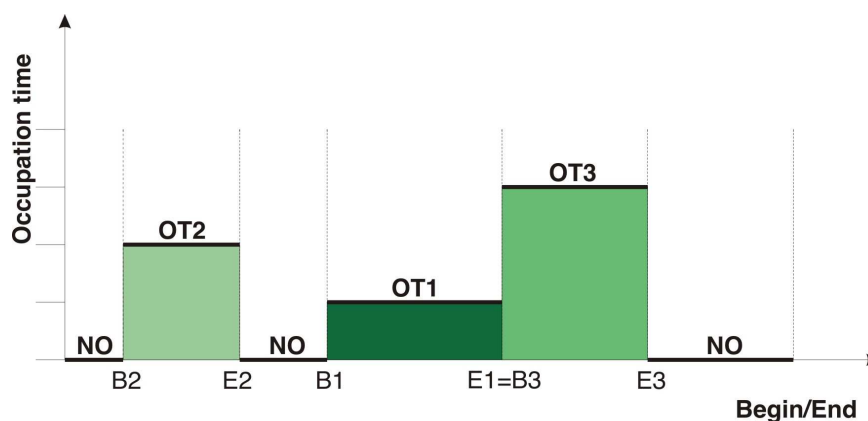

Fig. 1: Operating time state in the week program
The above figure (Fig. 1) shows a possible operating time (OT) state. As is visible, the end of an operating time is followed either by a non-operating time (NO) or by the beginning of a new operating time (see E1=B3). It is not possible for operating times to overlap each other.